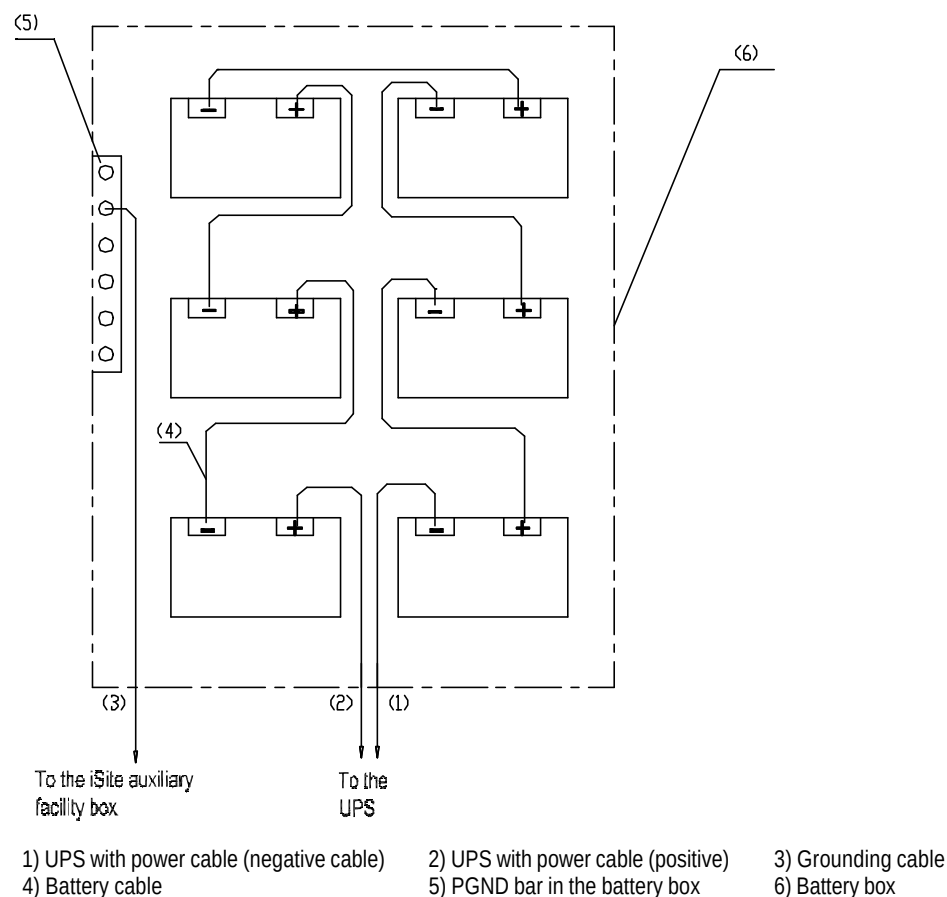

Figure 2-44 Connecting UPS to the IABB
- 7) Connect 6 batteries in series via the cables delivered with the box, as shown in Figure 2-44.